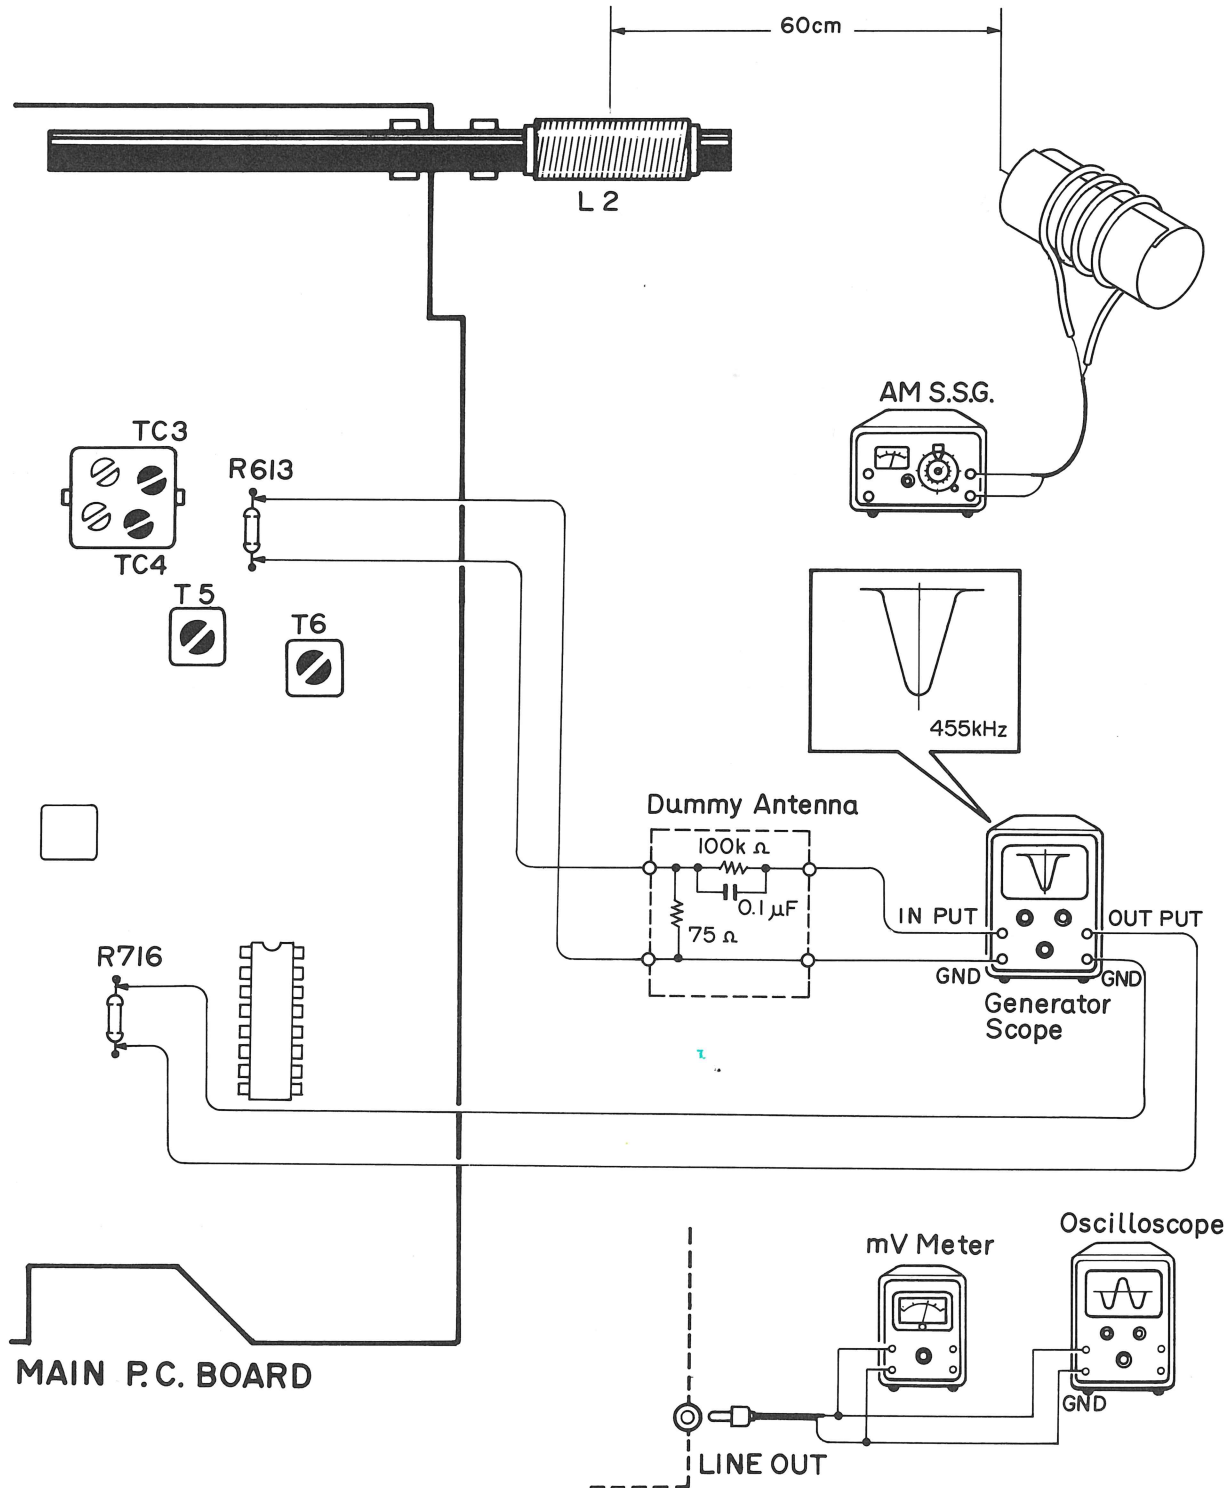

Fig. 39
- **Connection Diagram (Shown in Fig. 39)**